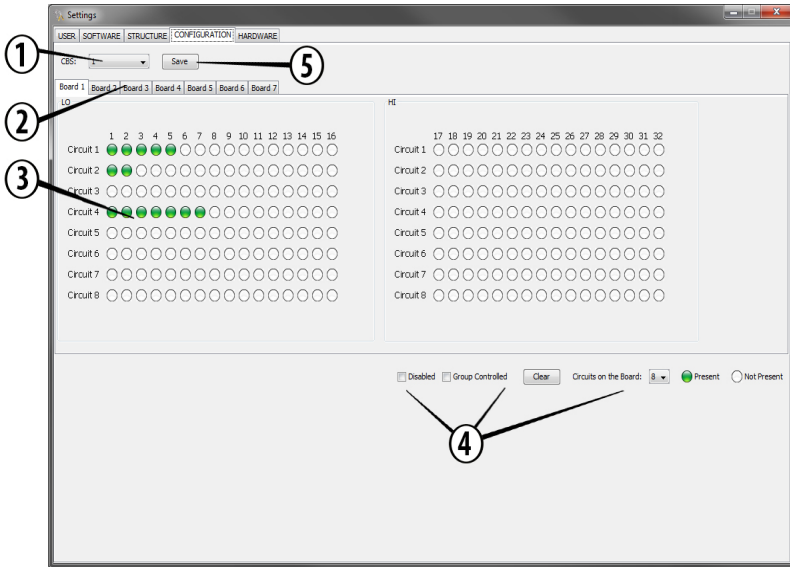

Figure 4. SETTINGS window, CONFIGURATION tab
1. Select the CBU for which you wish to modify the Luminaire information (No. **1** in the Figure 4).
2. Select a circuit board (No. **2** in the Figure 4).
3. In the luminaire table (No. **3** in the Figure 4) you can now see the luminaires that are present, and those that are not. Clicking a present luminaire (green dot) will mark it as not present, and vice versa. Set the luminaire data, and repeat process to all required CBUs and Boards.
4. If there are CBSs that do not have all 7 boards, you can disable the absent boards by selecting the first absent board on a CBU, and selecting Disable from the toolbar (No. **4** in the Figure 4).
- When the settings are done, click the Save button (No. 5 in the Figure 4) to save the data.